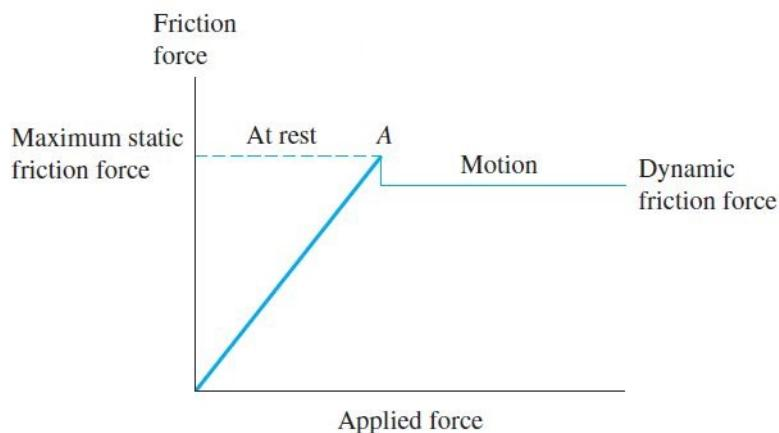

Figure 27: Friction force is equal to the applied force when the object is at rest. The point A represents the maximum static friction force.
- If the push (a force) is very small, the book will not move though a force is applied. The push is balanced by the friction force generated at the contact surface. The book will remain stationary for a range of magnitude of the push. That means, the static friction force is not constant but increases with increasing magnitude of the applied force (Figure 27).
The point A in Figure 27 can be identified experimentally by finding the condition at which an object starts to slide.